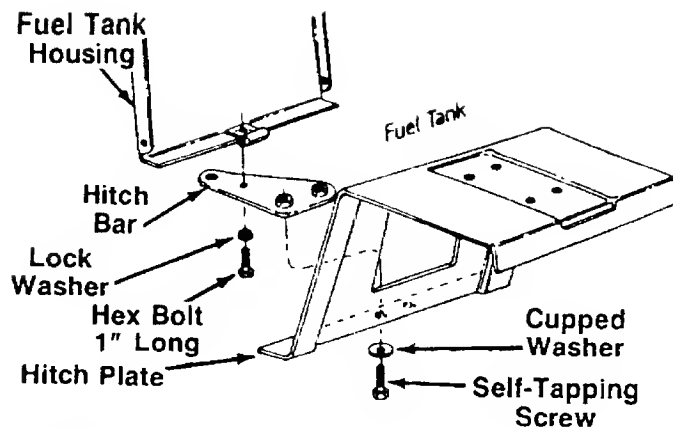

FIGURE 9.
1. Place the hitch bar (weld nuts up) above the edge of the hitch plate on the tractor. See figure 9. Secure with two 3/4" long self-tapping screws and cupped washers (cupped side of washers go against the hitch plate).